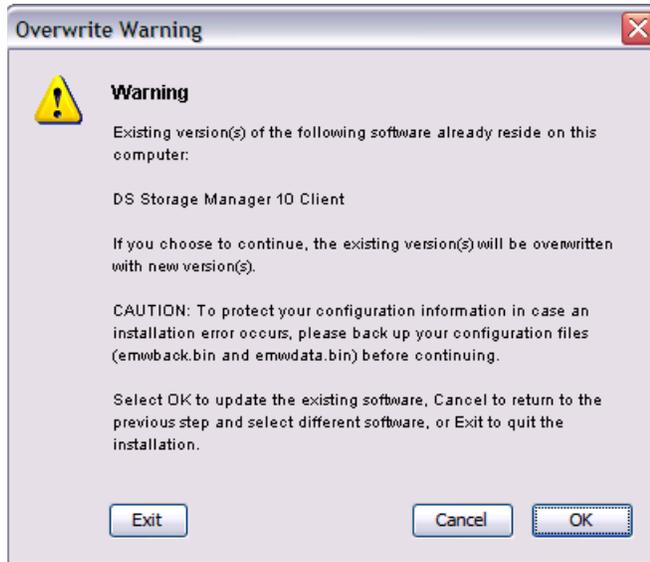

Figure 2-24 Updating host software warning
4. Because you are updating your installation, without uninstalling the previous version, the installation program detects existing versions of software components and presents the warning panel shown in Figure 2-24.